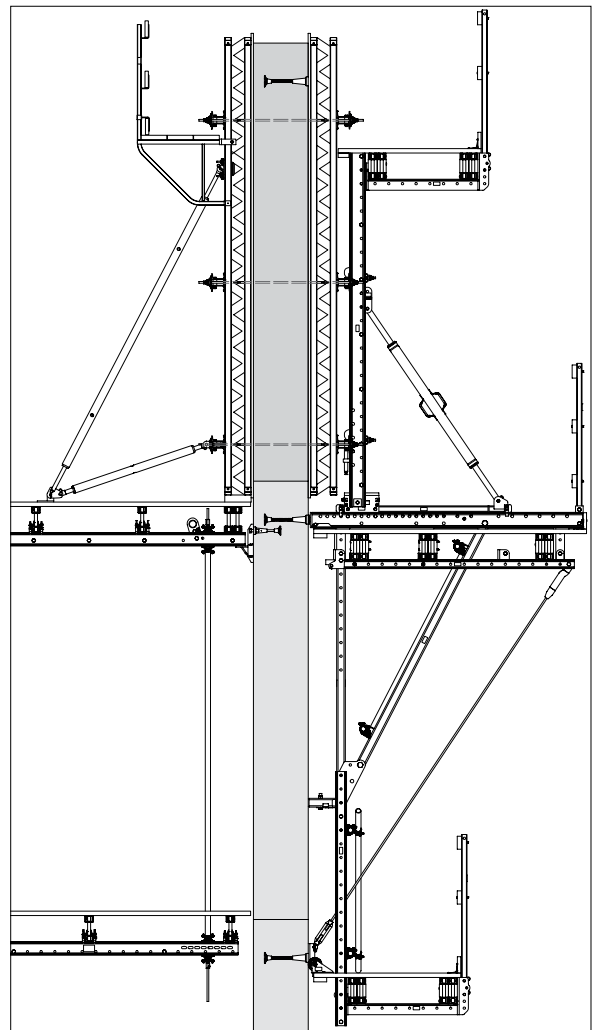

Fig. 07
- Concreting status. (Fig. 07)